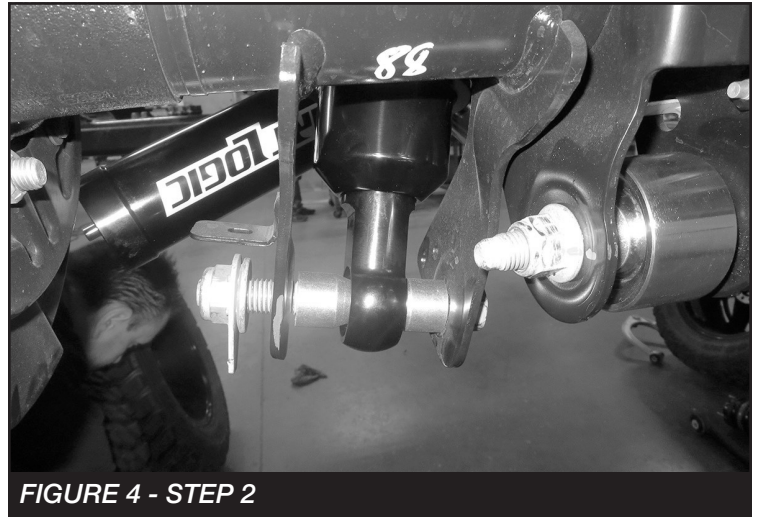

FIGURE 4 - STEP 2
2. Install the lower coilover to the axle mount using factory hardware as well as two FT30964 (Misalignments). Torque to 160 ft-lbs. **SEE FIGURE 4**